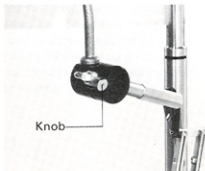

Fig. 47
- (1) Loosen the knurled knob of the fixation target34 slightly and detach the target end. (Do not turn the knob too much, as it will become detached.)
- (2) Grip the exposed lamp bulb and put out until it comes off.
- (3) Replace with a new bulb and check illumination of the target. (See Fig. 47)